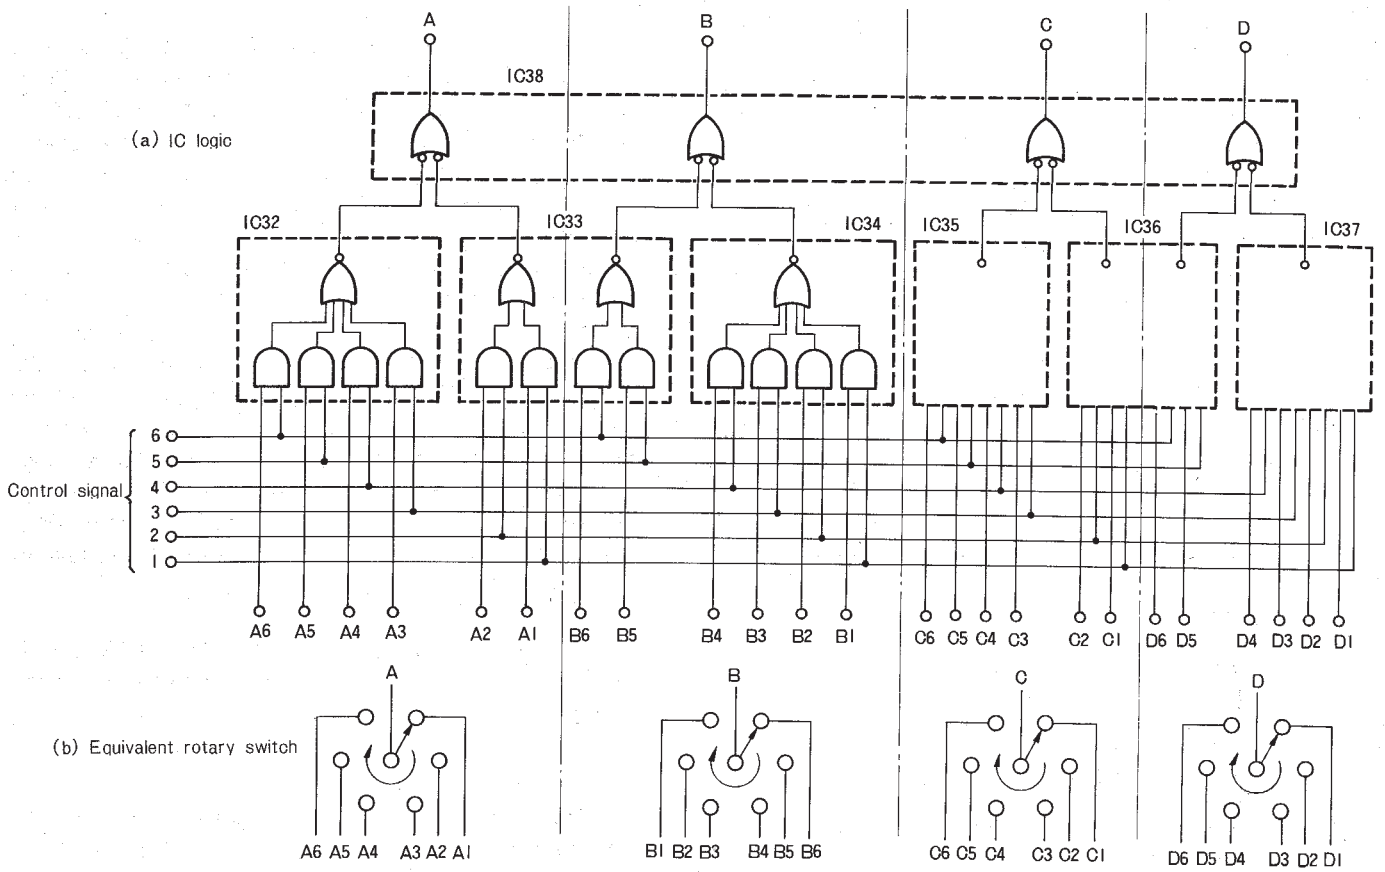
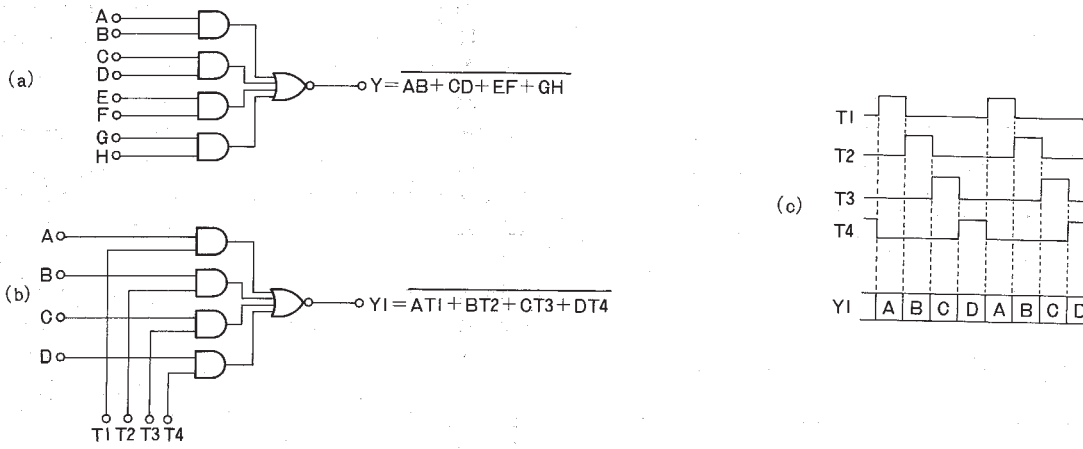
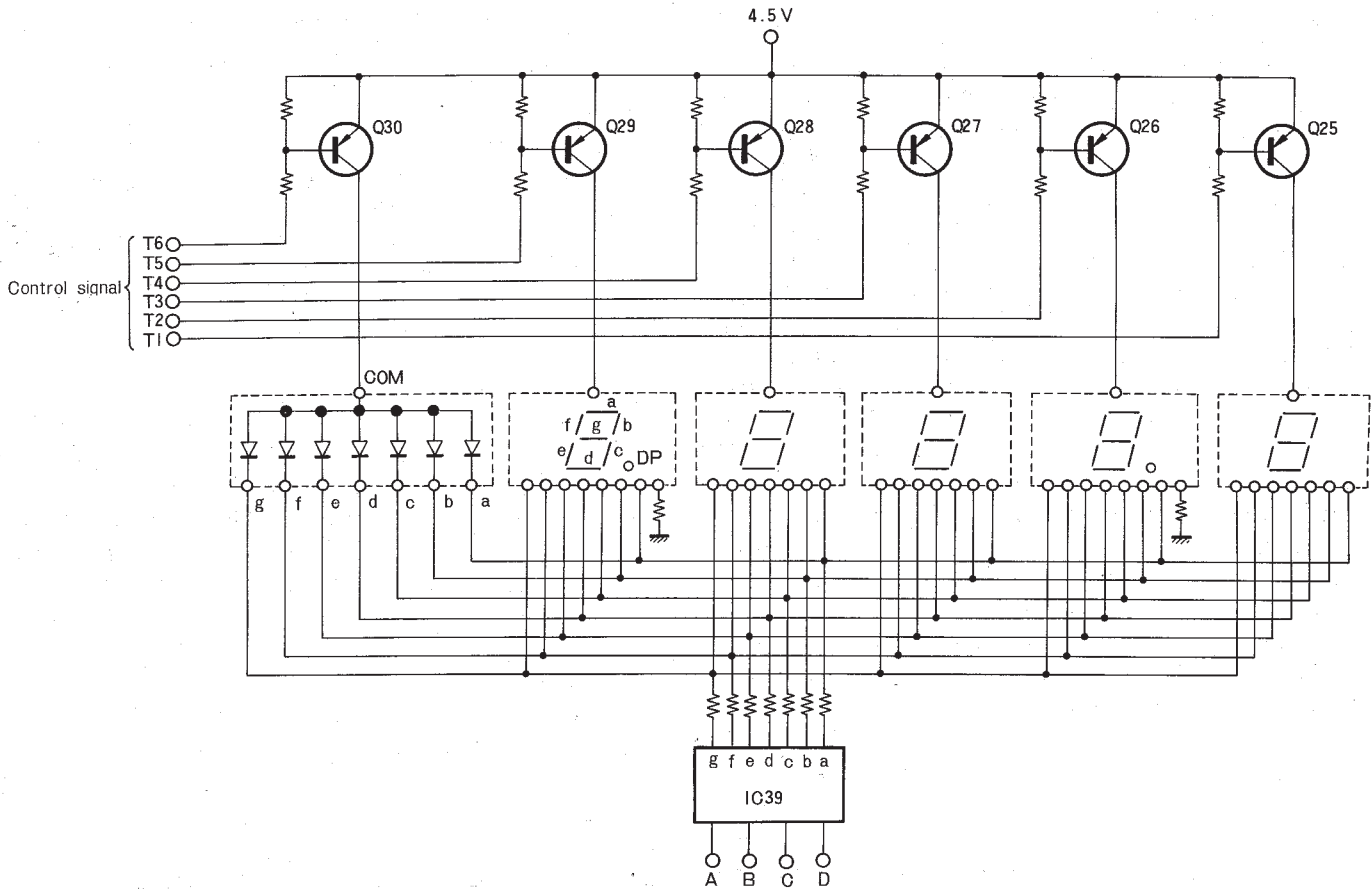

Fig. 18 Multiplexer Circuit
Fig. 19 4 Bits Multiplexer
Fig. 20 Display Driver
The multiplexer is generally installed on the latch side. In the circuit diagram it is composed of the 7 IC's, IC32 to IC38. The latch output is expressed in the BCD (Binary Coded Decimal) mode and the output for one digit is expressed by the 4 BCD output components, A, B, C, and D. The multiplexer gathers components A (or B, ...) out of the whole 6 digits in one position and ejects these components A ~ D synchronized with the scanning control signal by time division switching system. Fig. 18 shows the logica diagram of the circuit blocks that are indicated by the boxes in the circuit diagram. The SN7454N of IC32, 34, 35, and 37 is a 4-input distributor, while the TD3451AP of IC33 and 36 is used as a 2-input 2-circuit distributor. For ease of understanding, Fig. 19 is a logic diagram of SN7454N. As shown in Fig. 19 (a), this IC contains 4 2-input AND circuits and an NOR circuit. When 8 outputs A~ H enter, the resultant output Y is as follows:
When it is assumed that the signals T1 ~ 4 are the control signals scanned in turn as shown in Fig. 19 (c), the output Y1 will come out in the information train of component A for T1, component B for T2, , as is obvious from expression (4). The same operation is performed for the 6 digits by the circuit shown in Fig. 19. Since IC does not have any distributor for 6 inputs, outputs from 4-input and 2-input circuits are again combined at IC38 to obtain a function which is equivalent to one obtainable from a 6-input distributor. The control signal in this circuit is switched over in the order of A1, A2, A3, at the velocity of 2kHz. Therefore, as shown in Fig. 18 (b), each BCD digit is switched over to another by the rotary switch at the speed of 333Hz. The multiplexer (distributor) on the display side also operates in the same manner. In this case, however, the power supply to the display is merely switched on and off, and a control signal is delivered to the base of the transistor connected in series with the power supply of each display unit, in good timing with the latch side as shown in Fig. 20. Therefore the multiplexer on the display side is used merely to distribute current to the display units.